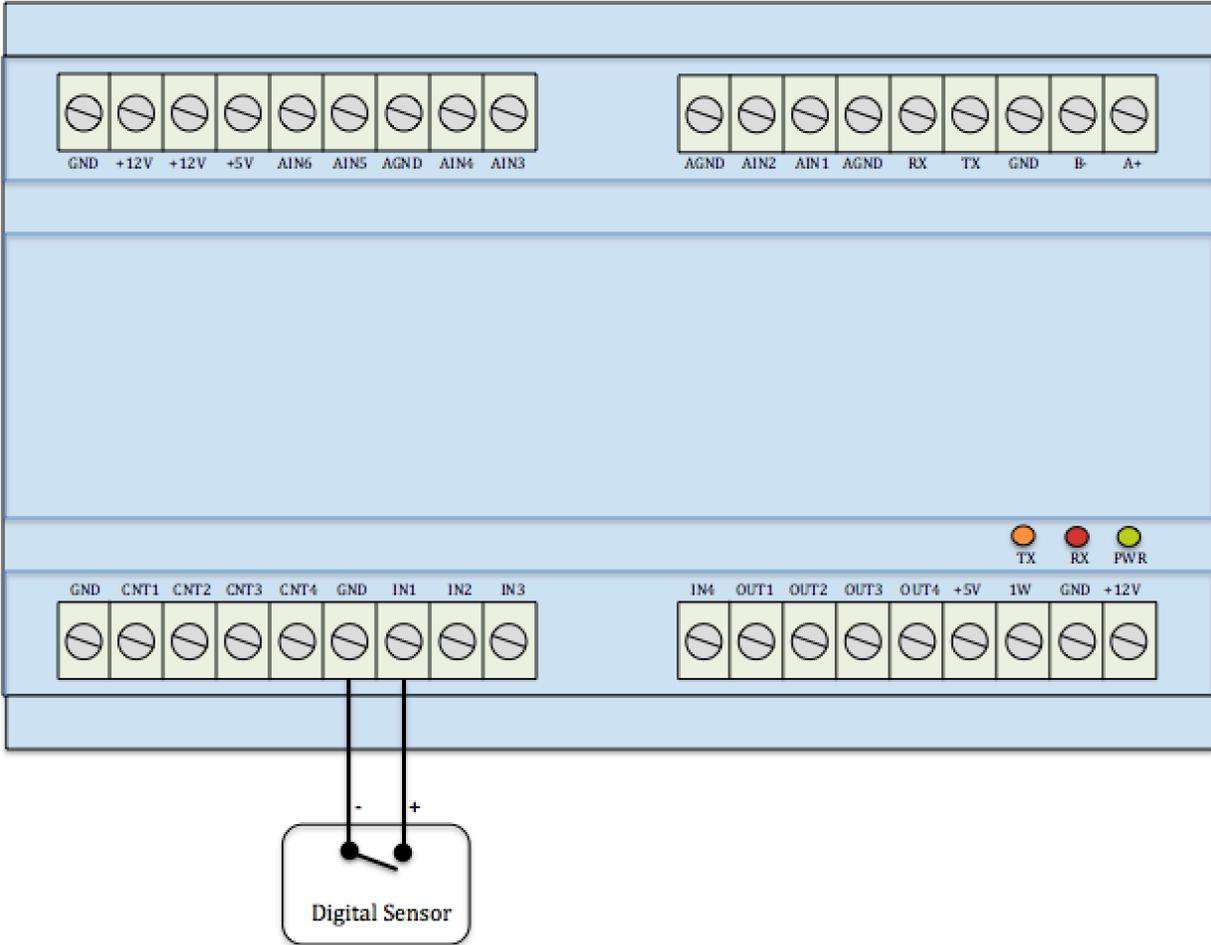

Figure 8. Digital Input Connection Diagram
Four (4) digital input channels are found at connections IN1 – IN4 of the PowerWise inDAC. The digital inputs should be used to tell whether a sensor is “On” or “OFF”. These inputs are triggered when connected to ground indicating “ON”. The ports are optically isolated with overvoltage protection up to 24 VDC. **Figure 8** shows the common connection for a digital 2-wire input.